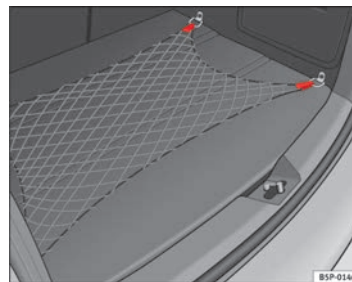

Fig. 106 Luggage compartment net
- Use the fastening rings located on the side of the luggage compartment to attach the storage net ⇒ Fig. 106.